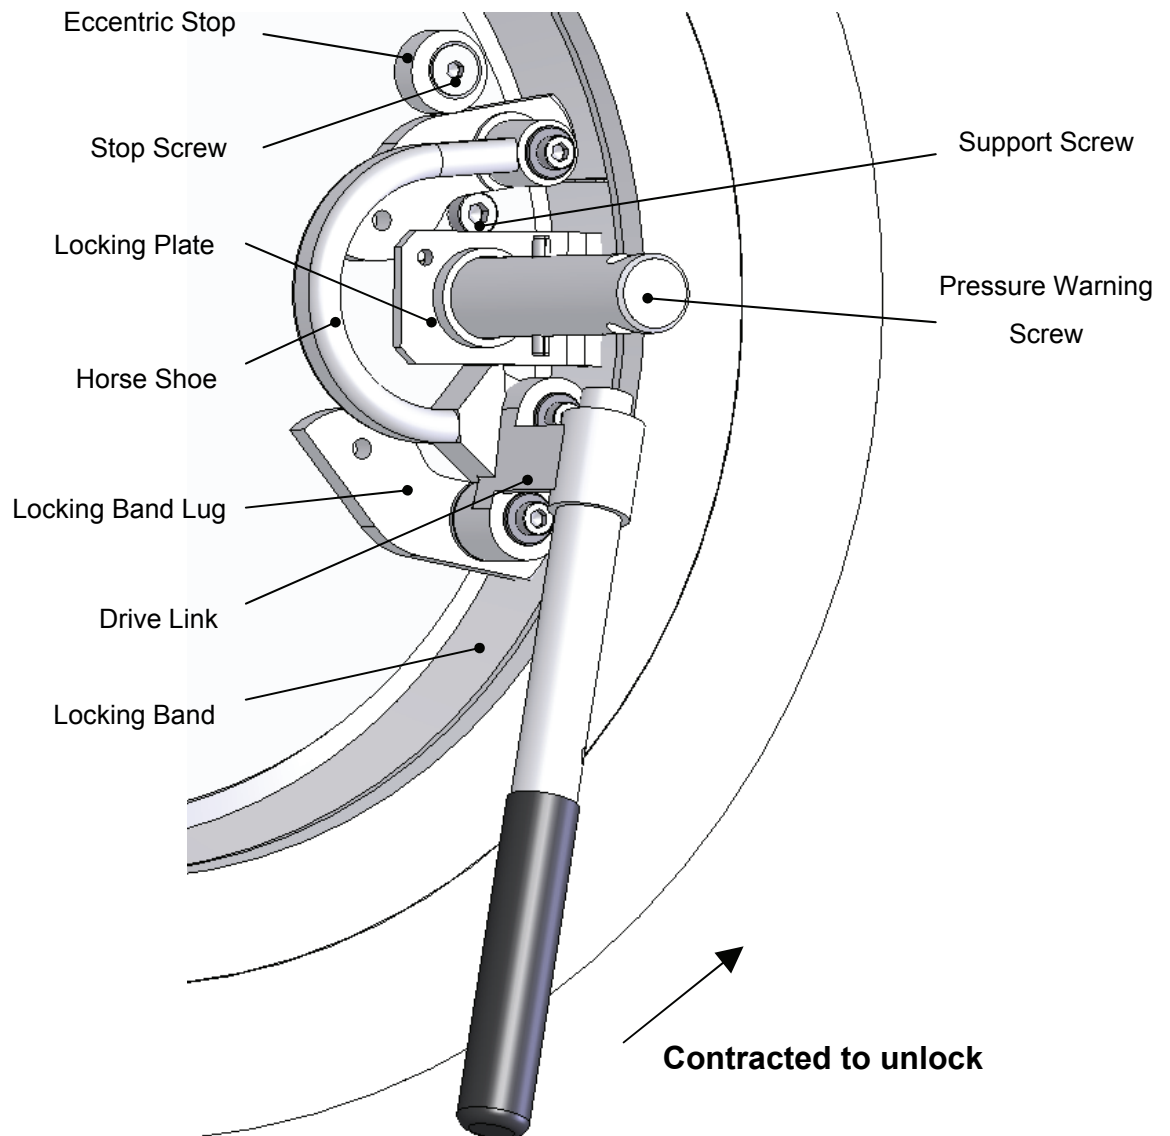

Fig 2.0 – Bandlock™ 2 Closure Locking Mechanism Components.
- 4 Locate the universal handle into the drive link (reference Fig. 2.0) attached to the locking mechanism. Make sure that the universal handle is positively located in the hole provided. Rotate the universal handle anti-clockwise through approximately 180°. This will actuate the drive link and horseshoe mechanism and progressively contract the band onto the door recess. The universal handle should then be removed.